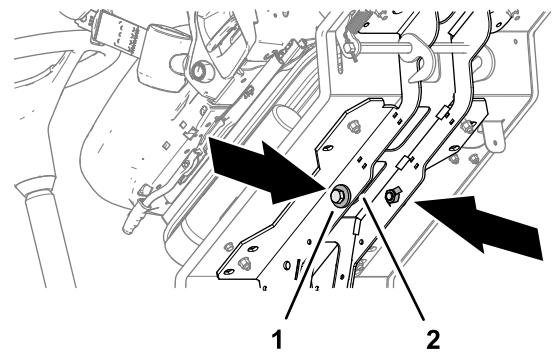

Figure 39
6. Stow the 2 bolts 12 x 40 mm and 2 washers 12 mm stored in the platform support rails (Figure 39).